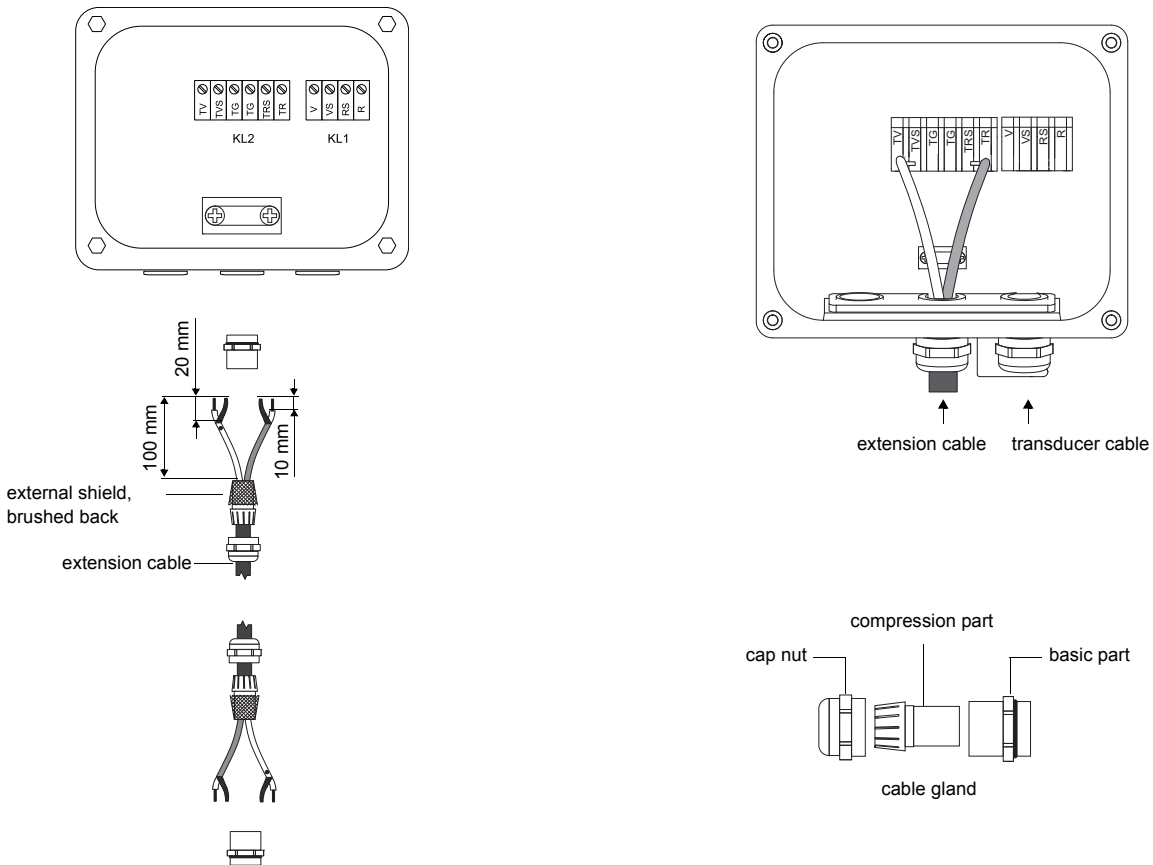

Fig. 6.11: Connection of the extension cable to the junction box
- Remove the blind plug for the connection of the extension cable (see Fig. 6.11).
- Connect the extension cable to the terminals of the transmitter (see Fig. 6.11 and Tab. 6.6).